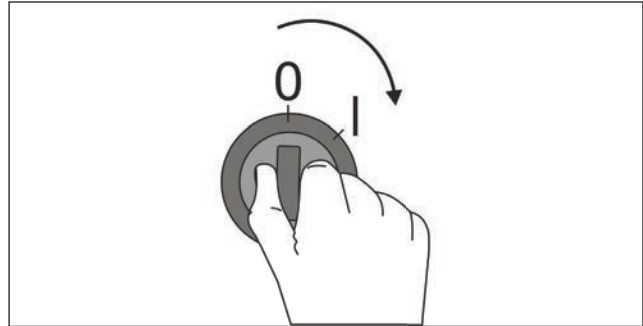

Fig. 13.3
3. To start the unit cooler, switch on the power (Fig. 13.3).